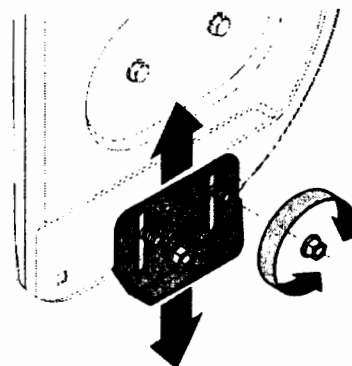

Figure 19- Standard Skid Shoe
The space between the skid shoes and the ground can be adjusted. See Figures 19 or 20. For close snow removal, place skid shoe in the low position. Use middle or high position when area to be cleared is uneven.
The augers are secured to the spiral shaft with shear pins and cotter pins. See Figure 19. If you hit a foreign object or ice jam, the snowthrower is designed so that the shear pins will shear.
- To remove skid shoes, remove the four carriage bolts and hex flange nuts which secure them to the snow thrower. Reassemble new skid shoes with the four carriage bolts (two on each side) and hex flange nuts. Refer to Figures 19 and 20.